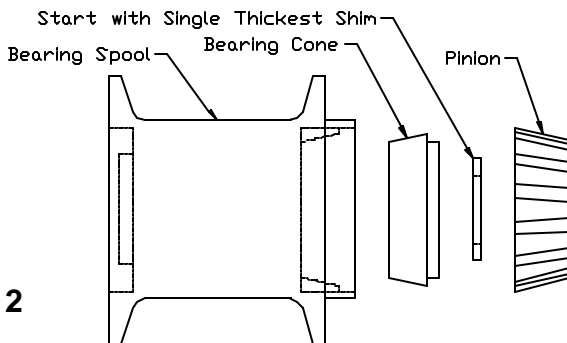

Fig. 2
3) The correct number of shims to achieve perfect ring/pinion gear mesh will be determined next. From the kit you will need only the spool, the bearing cone, the shim set, and the pinion gear. You will not use the drive shaft, shaft collar, key or pinion nut for this operation. The pinion is in "stock" position when only the single thickest shim is used. Refer to Fig. 2